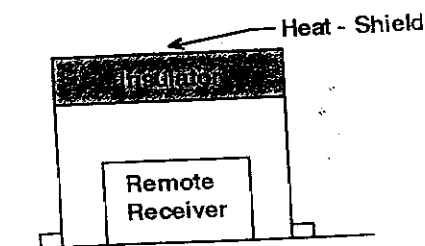

Fig. 4
8. In order to prevent the Remote Receiver from overheating, put a Heat-Shield (option item) above the Remote Receiver. See Figure 4.